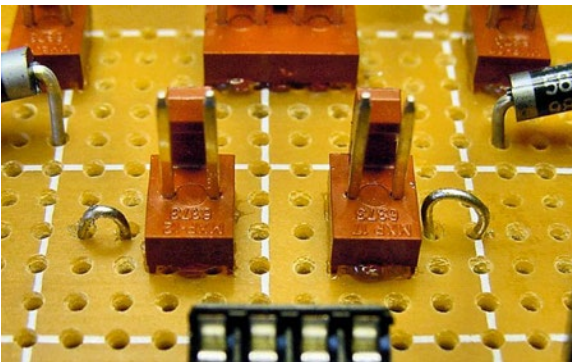

Figure 23-12. Loops atop breadboard to allow attachment of multimeter IC hook probe tips for positive voltage (left) and negative voltage (right)
3. Loop the bare wire up to the top of the board and back down again (see left side of Figure 23-12). Not only does this provide a mechanically strong starting point for the bus wire, but also makes a nice little loop that is perfect for hooking a multimeter probe.